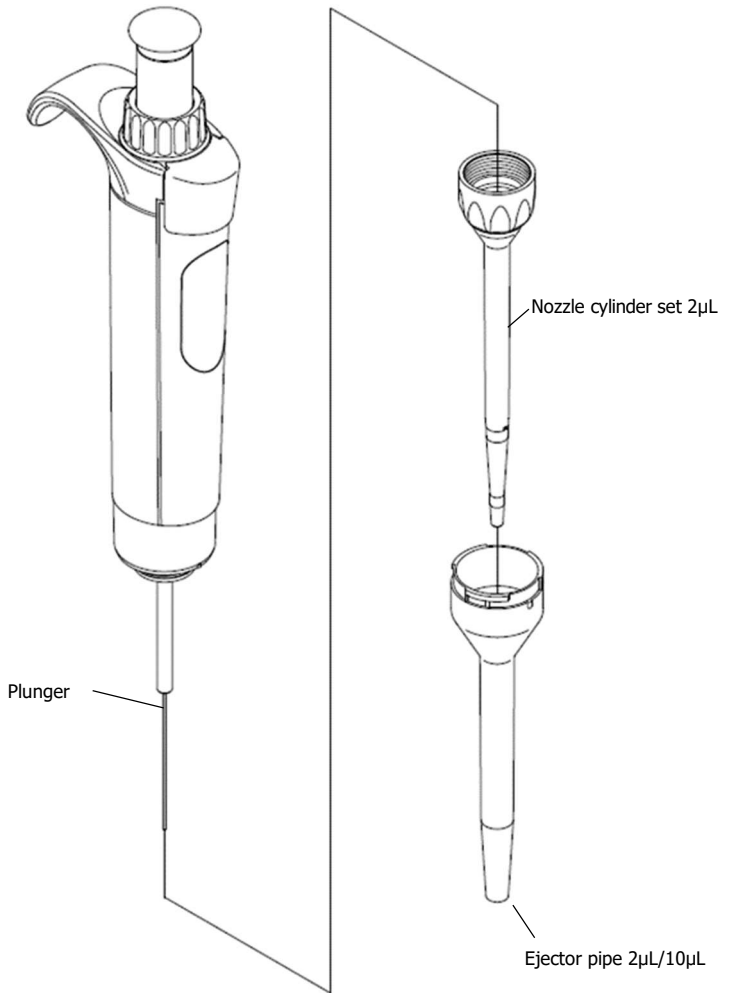

Fig. 4-8
- 2 μL , 10 μL (Fig. 4-8, 4-9)